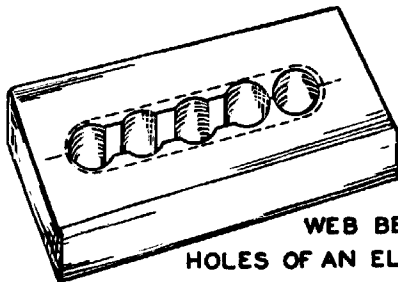

FIG. 4
6. On jobs requiring a narrow elongated slot, a single series of holes are drilled and the webs punched out wide enough with a drift so that a file may be inserted to finish the job to size and shape. (Fig.4).